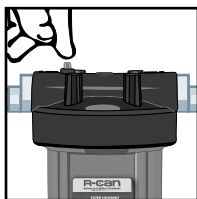

FIGURE 5A
1. Shut-off the water flow to the unit, depress pressure relief button on top of the filter head to relieve pressure in the filter (Figure 5A).